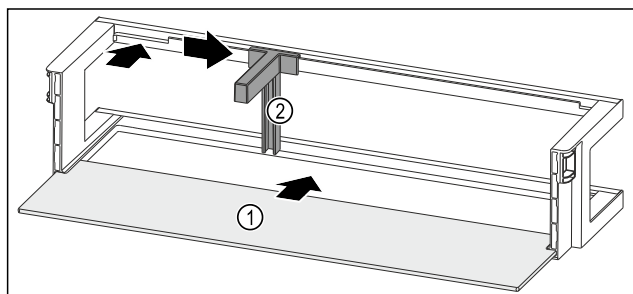

Fig. 121 Door rack with shelf
- Push the shelf Fig. 121 (1) into the side recesses.
- Insert the bottle holder Fig. 121 (2) in the recess.
- Push the bottle holder Fig. 121 (2) to the desired position to the side.